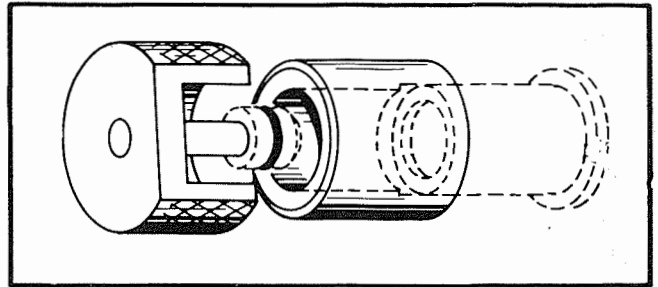

Figure 7-62. Rocker Arm Shaft Spacer Installing Tool
- c. Roll a new packing ring on the shaft spacer and install the spacer using installing tool 806605 (figure 7-62). Lubricate the threads of the rocker arm shaft cap with clean engine oil, and install the washer and cap. Tighten the cap to 350 - 400 inch-pounds, using wrench 806277. Lockwire. Remove the valve spring compressor.